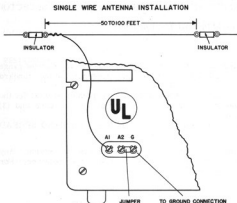
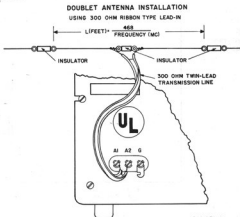

FIG. 2 SINGLE WIRE ANTENNA INSTALLATION
FIG. 3 DOUBLET ANTENNA INSTALLATION
**ANTENNA** - A three terminal strip, marked A1, A2 and G, is provided on the chassis rear apron for antenna connection. Very satisfactory results can be obtained throughout the tuning range of the receiver with a conventional single wire antenna installation (see Fig. 2). However, it is recommended that a doublet antenna (see Fig. 3) be employed on the shortwave bands for improved reception.
When feeding the doublet antenna with a ribbon type transmission line (see Fig. 3), connect the transmission line to terminals A1 and A2, and disconnect the jumper between terminals A2 and G.